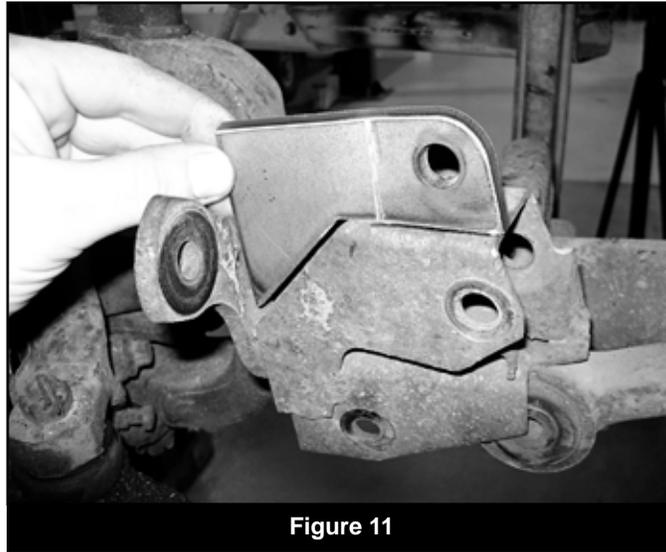

Figure 11
35. Position the new provided stabilizer mount (01565) on the top of the original mount so that the hole is to the driver's side and the front surface is aligned to the line marked on the top of the OE bracket (Fig 11). The stabilizer will butt up to the passenger's side sway bar link mount.